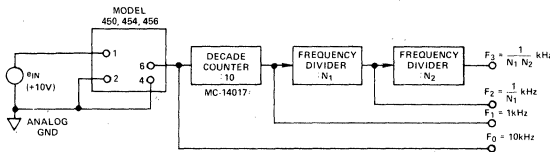

Figure 8. Voltage Controlled Square Wave Generator Using Digital Dividers and V/F Converter
Lowering Full Scale Frequency: The full scale frequency of a V/F converter can be reduced by three techniques; (1) adding a series trim potentiometer, such as 10kΩ, with the input; (2) adding a voltage divider network at the input; or (3) adding a digital divider at the output. Both input techniques (1) and (2), degrade the full scale gain drift by the added T.C. of the input resistors. By using a frequency divider connected to the V/F output, full scale frequency can be conveniently reduced without degradation of the converter's full scale drift performance. By adding successive frequency dividers, as illustrated in Figure 8, a precision, low-cost, voltage controlled square wave generator can be designed.